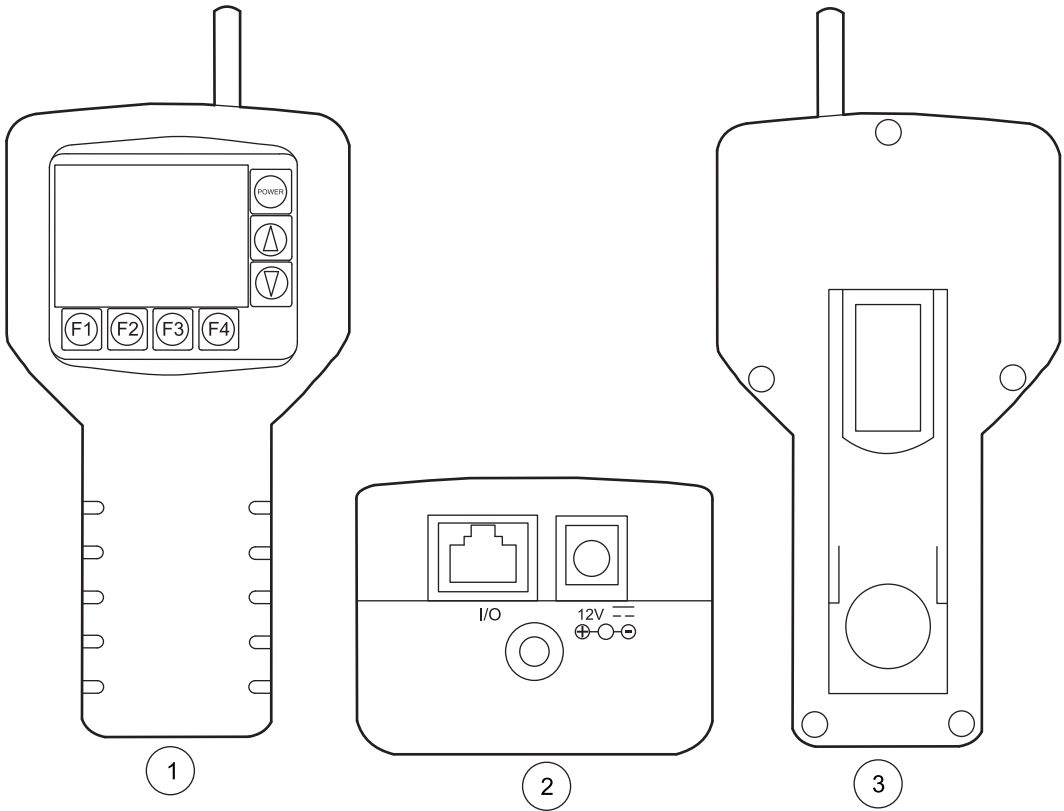

Figure 2 MET ONE HHPG-6
The MET ONE Handheld Airborne Particle Counter-6 (MET ONE HHPC-6) (refer to Figure 2 on page 9) is a portable instrument that measures, counts, stores and reports airborne particulates. The standard MET ONE HHPC-6 can hold 500 samples in the memory. The data records include the date, time, counts, sample labels, volume, alarm flags, temperature and relative humidity. Use the interface cable and software provided with the MET ONE HHPC-6 to download the data records to a personal computer (PC). The internal battery can power the MET ONE HHPC-6 when the MET ONE HHPC-6 is mobile. The MET ONE HHPC-6 can also be connected to an AC power adapter provided, for extended or stationary sampling.